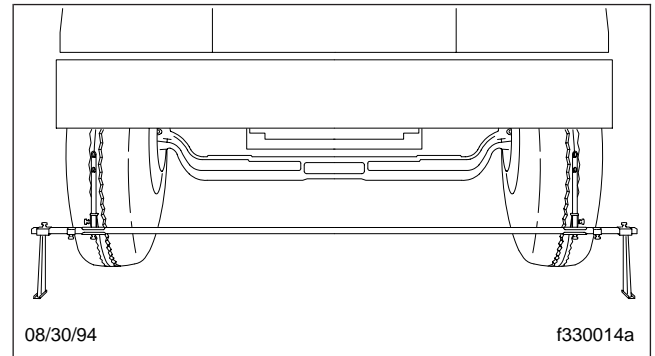
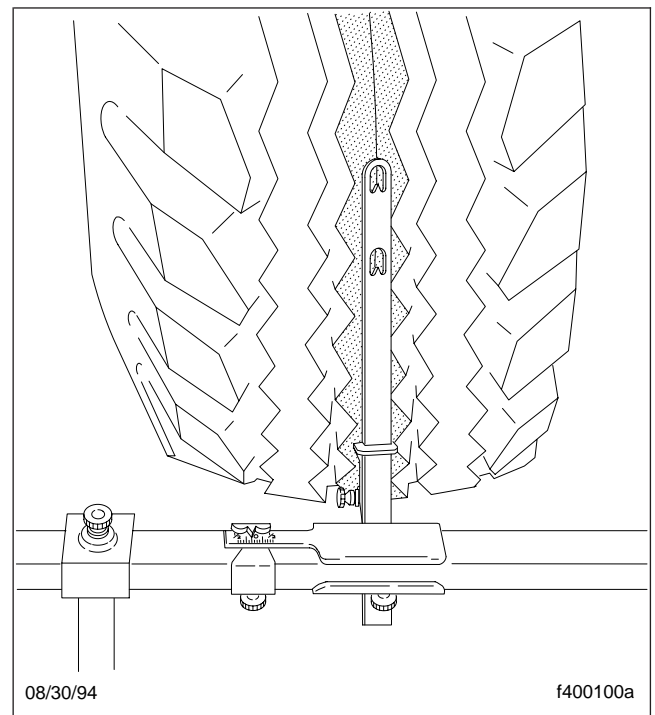

Fig. 5, Trammel Bar Positioning
Fig. 6, Setting Trammel Bar Pointers
7. Place the trammel bar at the rear of the tires and adjust the scale end so that the pointers line up with the scribe lines. See Fig. 5 and Fig. 6.